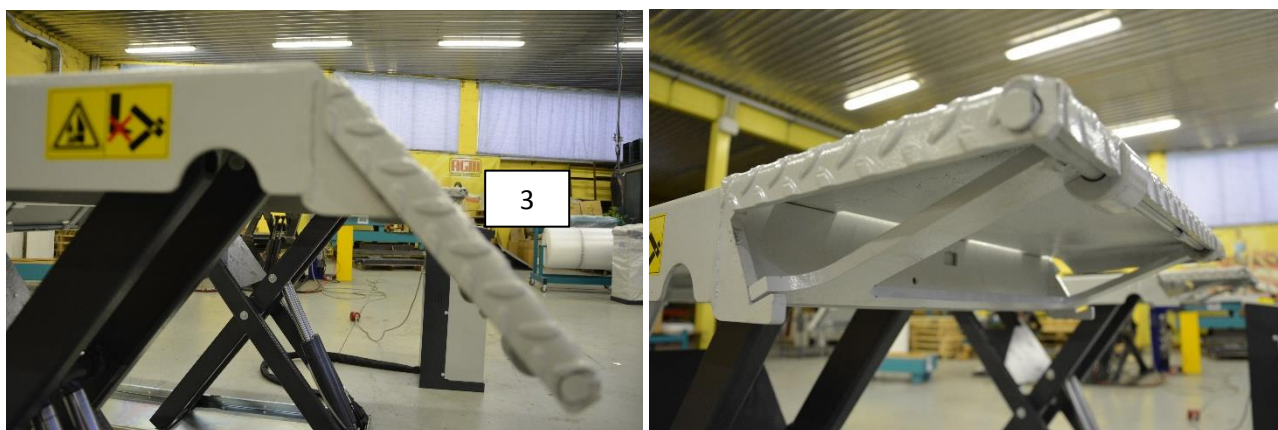
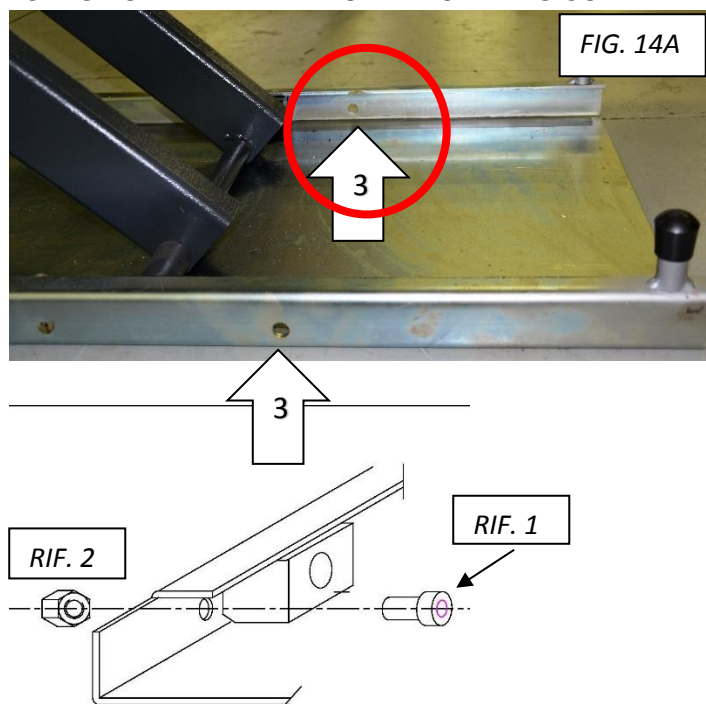

FIG.14
FIG. 14A
BE MOVED THE SINGLE PLATFORM CORRECTLY AS SHOWN IN FIGS. 14; 14A; 14B; 14C
Mount the climb climb ramps (3 fig. 14) as follows:
At the end of assembly, check the free movement of the ramps and their correct insertion as shown in Figure 14
Insert the two screws ref. 1 fig. 14A (M12 x 30 screws) into the holes in the base (Fig. 14) and fit the relative nut. (Ref.2)